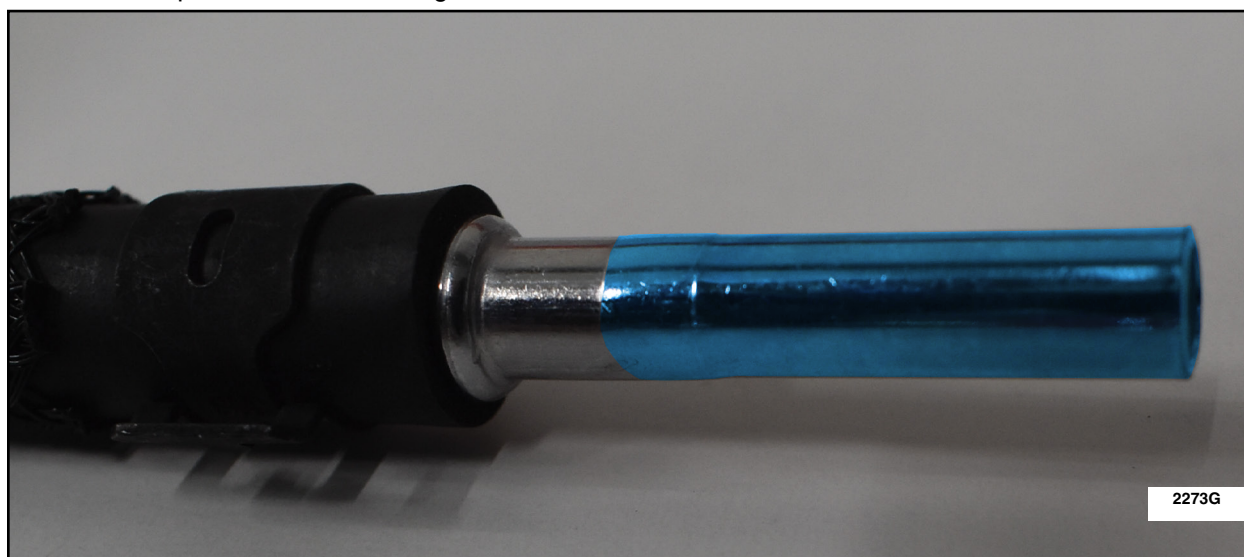

FIGURE 7
10. Apply Loctite® (SF) 7649™ Primer to the metal tube, as shown in the blue highlighted area. Allow one minute for primer to cure. See Figure 7.